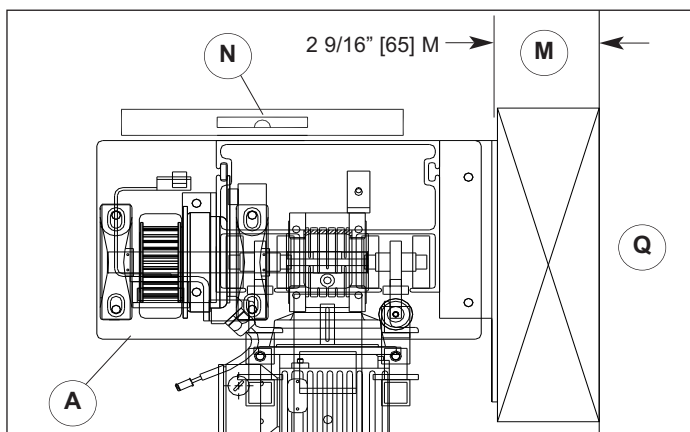

Figure 8.3
6. Align the center splice (E) of the header with the center mark on wall and with support posts providing support by resting on the floor. Plumb the posts in both directions.
7. Fasten support posts to header using the 3/8" x 3" [10 x 76] bolts, washers and lock nuts provided (F).
8. With the header centered in the opening, mark the holes for anchoring the posts. Use the four 3/8" x 2 3/4" [10 x 70] concrete anchors for floor (G).
10. For SS - Attach 15" [381] poly lumber to header bracket (J).
11. For SS - with the header positioned 8" [203] from edge of the jamb (AE), mark the holes for mounting the header and fasten using the four 1/2" x 24" [13 x 610] threaded rods.
12. For SS - The support post with the holes for mounting the end panel needs to go on the non-drive side (K). The drive side post is offset (AD).
13. Fasten bracket to the wall (Q).
14. 2 9/16" [65], plus blockout thickness (M), **Figure 8.3.**
15. After header is installed make sure that it is level from front to back (N).